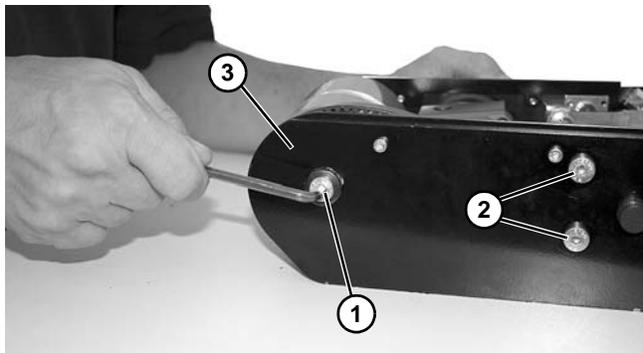

Figure 148
7. Remove socket head screw (Figure 148, item 1) and washer from both sides of the conveyor.
8. Remove socket head screws (Figure 148, item 2) on timing belt side. Remove plate (Figure 148, item 3).